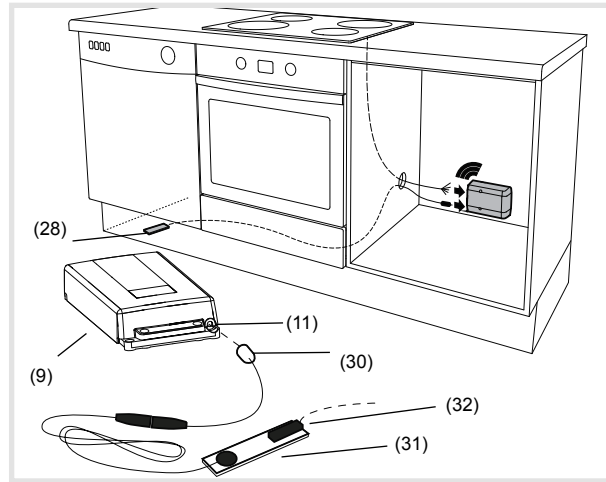

Figure 8: Mounting water leakage sensor
(30) Water leakage sensor plug
(31) Water leakage sensor
(32) Connection socket for additional water leakage sensors
- Insert plug of the leakage sensor (30) into the jack on the power control unit (11).
- Place the water leakage sensor (30) under the dishwasher (Figure 8).
- Optional: Insert additional water leakage sensor into the plug (32) of the front sensor (30).